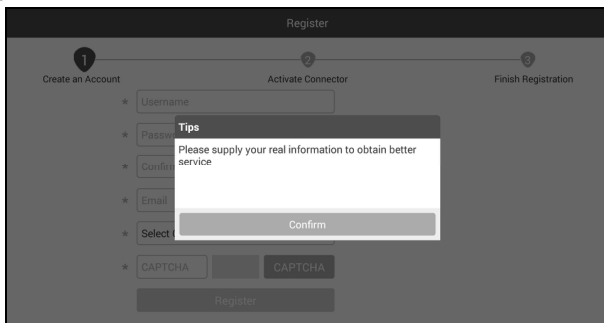

Fig. 4-3
1. If you are a new user, tap “New Registration” to enter the sign-up page. See Fig. 4-3.
In Fig. 4-3, fill in the information in each field (Items with \* must be filled). After inputting, tap “Register”, a screen similar to the following will appear: